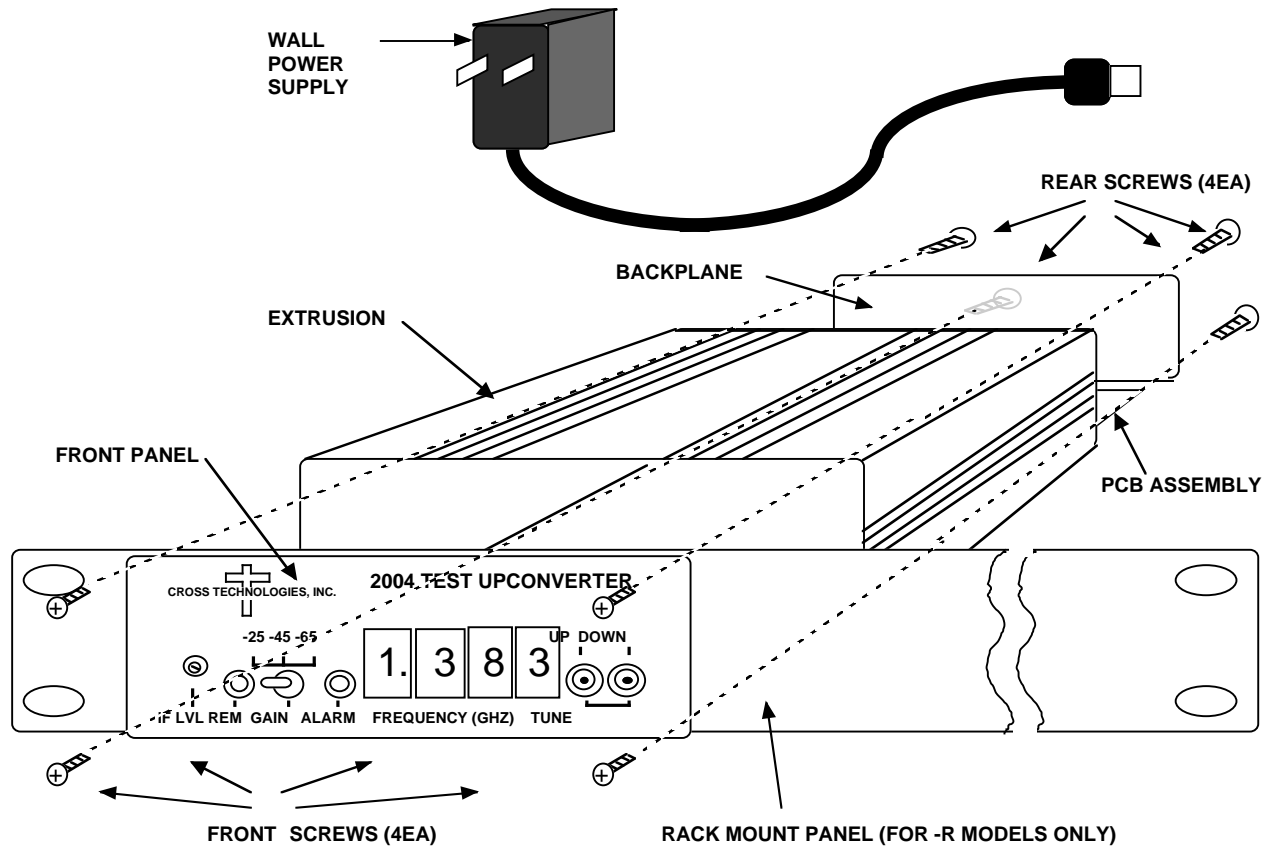
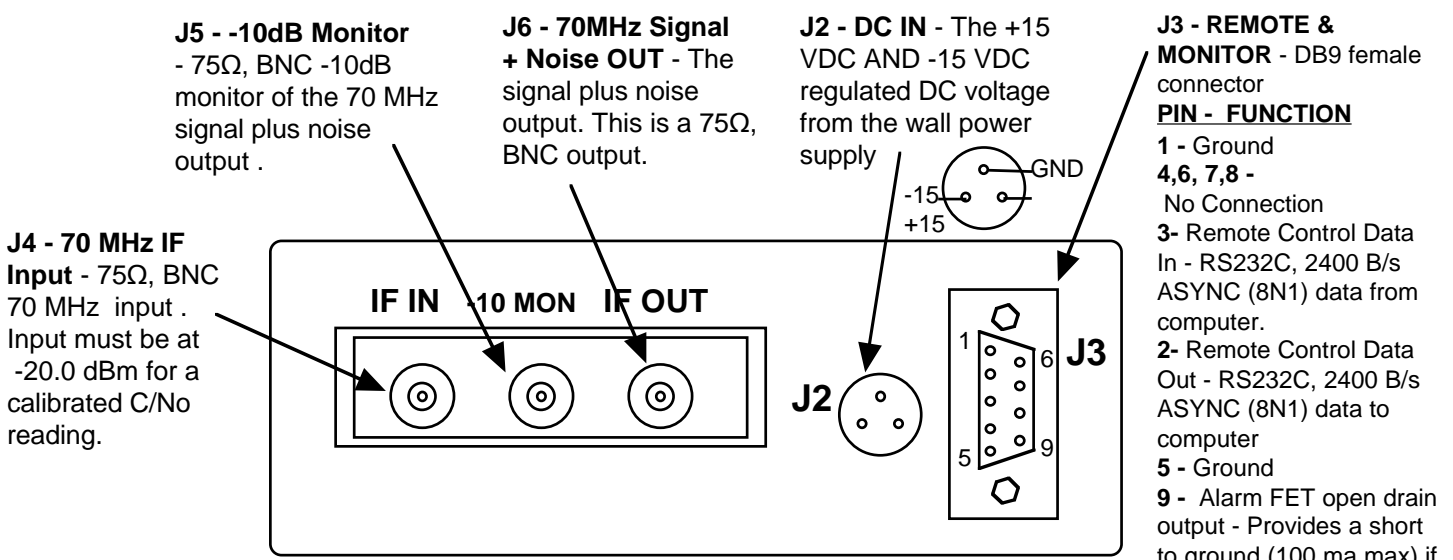

FIGURE 2.1 SERIES 2000 ASSEMBLY DRAWING
FIGURE 2.3 2007 Inputs and Outputs
2.1 Mechanical - The 2007 is packaged in an aluminum extrusion. The 2007R is mounted on a 1 3/4" X 19" panel that can be mounted to a rack using the 4 holes at the ends. The 2007 and 2007R derive $\pm 15V$ a wall power supply. See Figure 2.1.
2.3 Input / Output Signals - Figure 2.3 shows the input and output signals to the 2007.
- 1.) Remove four (4) **rear panel screws** (see Figure 2.1).
- 2.) Connect the wall power supply to the 2007 and the wall power supply to 115 VAC, 60 Hz (Figure 2.1)
- 3.) Connect a -20.0 dBm 70 MHz signal to 70 MHz SIGNAL IN (Figure 2.1, Figure 2.3)
The remote control program sends commands to the 2007 through pin 3 of the DB9 connector, J3 (Figure 2.3). Pin 3 is an RS-232 serial port set to accept 8N1 formatted data. Each command sent to the 2007 consists of an instruction byte followed by one or two bytes of data. The 2007 acknowledges receiving and successfully executing each remote control command by sending an **acknowledge byte** (2400 baud, 8N1 format) through pin 2 of the DB9 connector, J3.